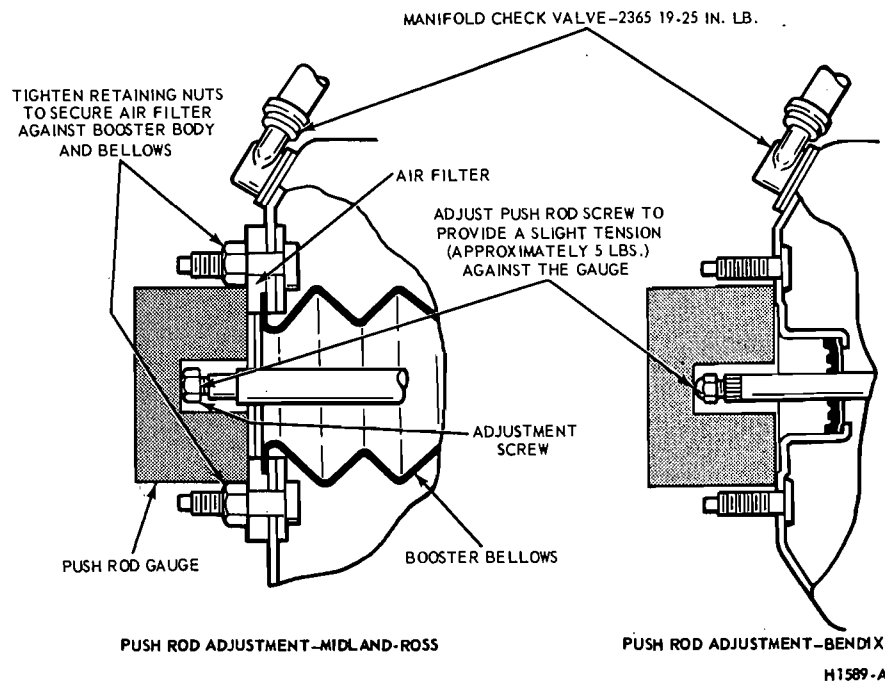

FIG. 8—Brake Booster Push Rod Measurement
2. Reinstall the air filter assembly on the booster if it was removed with the master cylinder (Fig. 8).
sion against the push rod is required to assure that the push rod is firmly seated in the booster assembly.) See Figure 8.